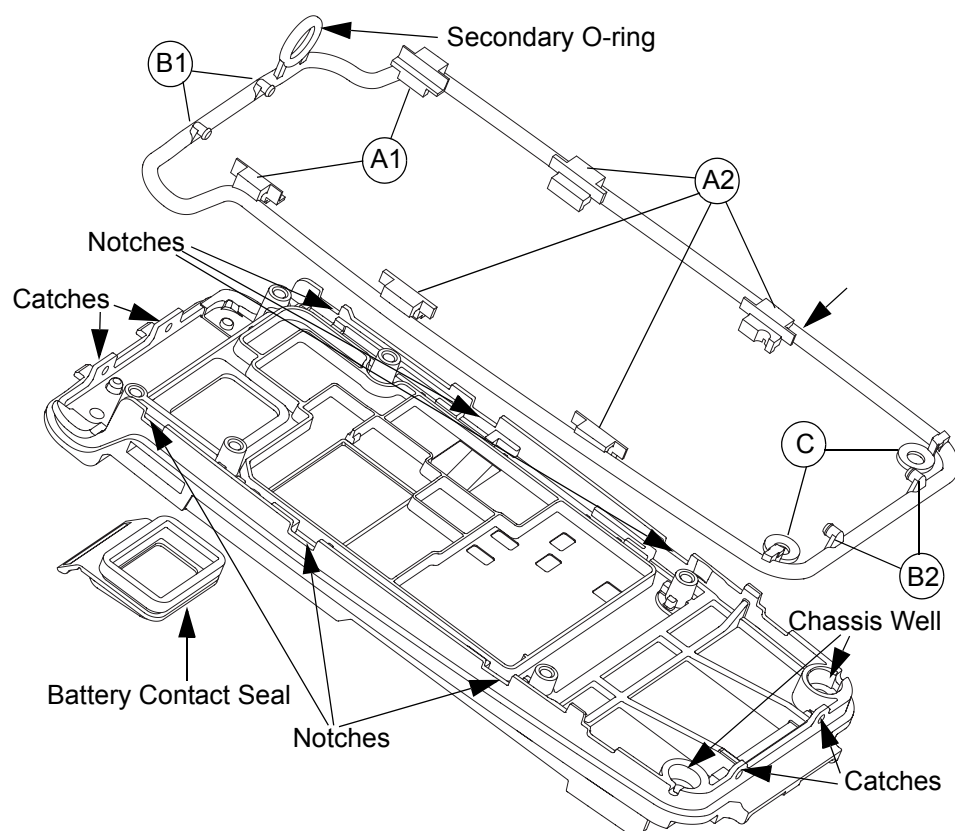

Figure 5-12. O-ring and Battery Contact Seal reassembly.
2. Refer to Figure 5-12 to fit the main O-ring onto the chassis in the following sequence: